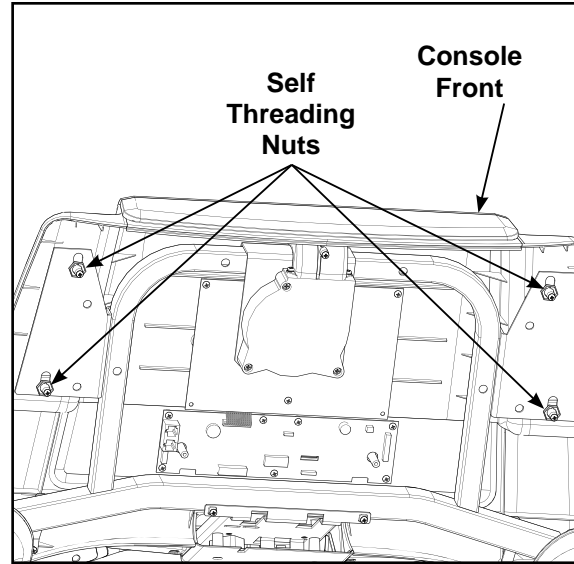

Figure 26
C. Using an 11/16" Socket wrench, remove the four self threading nuts front the console front. See Figure 26.